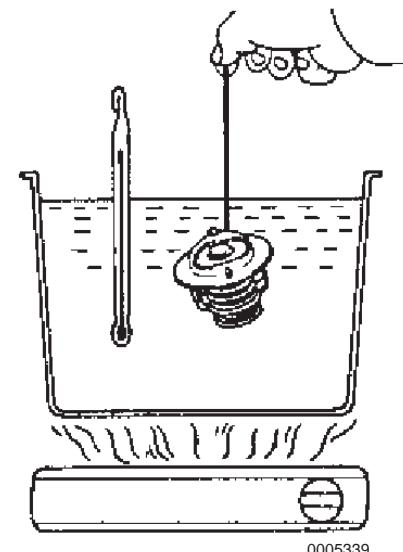

Figure 7-11
6. Immerse the thermostat in water and slowly heat it **(Figure 7-11)**. The valve opening temperature is indicated on the thermostat.